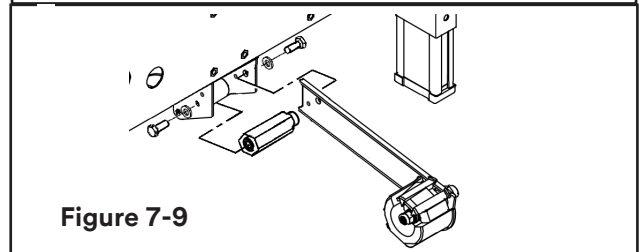

Figure 7-9
4. Install and secure tape drum bracket assembly on the entry end of the lower frame (as shown in Figure 7-9).